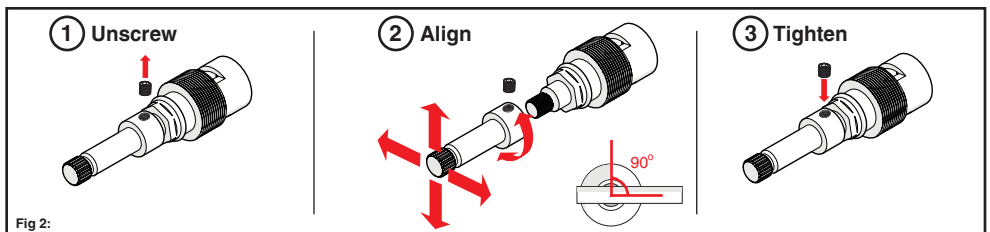

Fig 2:
***Fig 2: To align the handle, loosen grub screw/s (2) from the extension (1) using 2mm allen key, then rotate the position of the extension (1) and ceramic disc cartridge (7) until the desired handle position is achieved.**
5. Once aligned ensure the extension (1) is pushed firmly on to the ceramic disc (7) and tighten grub screw/s (2) firmly using the 2 mm allen key. Take care whilst doing this.
6. Place the fibre washer (4) over the ceramic disc assembly (7A) and onto the face or the (A) wall breach or (B) basin body.
7. Tighten the locking nut (3) over the ceramic disc assembly (7A) and tighten firmly using a 25mm deep tube socket. *For some product ranges such as Tudor hob, please use 24mm socket